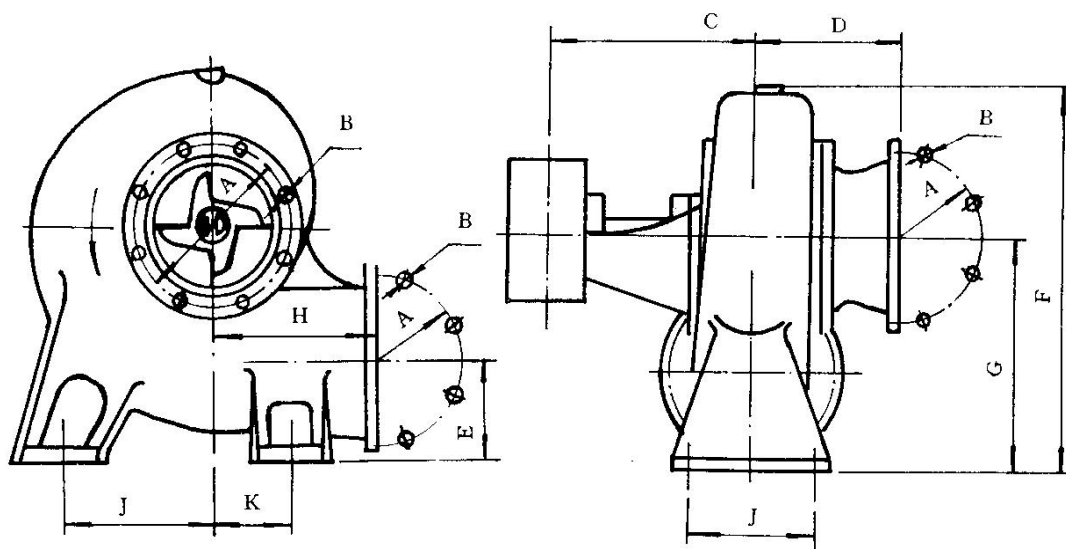

Fig 4. Dimensions for mounting
2. The direction of the outlet of model 26HBC-30, -40, -50 pumps is just opposite to one shown in Fig. 4.